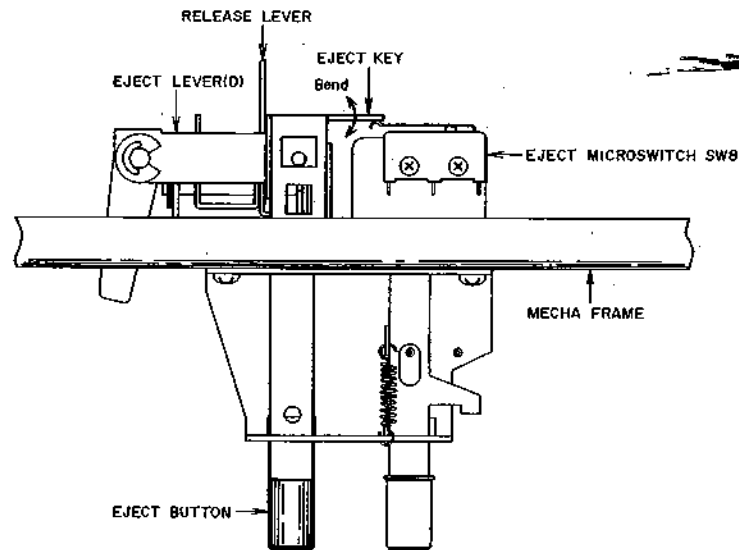

Fig. 13
COMPONENT (Refer to Fig. 13)
6. ADJUSTMENT OF EJECT MICRO SWITCH ACTUATING POSITION (Refer to Fig. 13)
Adjust by bending Eject Key so that when the Eject Key is depressed, Eject Micro Switch (SW8) shown in Fig. 13 is perfectly actuated. After adjustment, depress Eject Button and confirm that Eject Micro Switch (SW8) switches before the Release Lever operates.